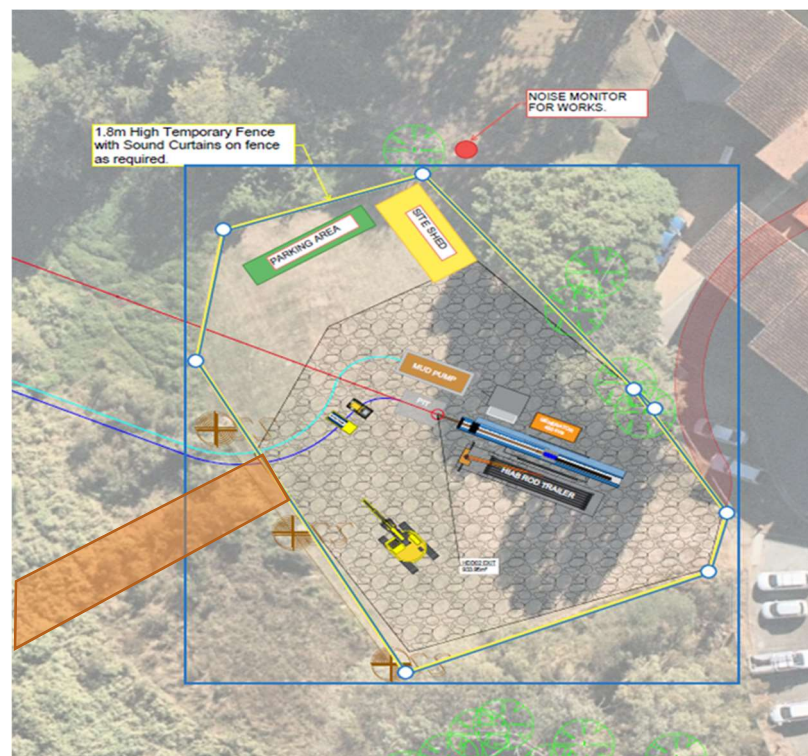

Figure 3c
3. Sinnamon Aged Care Facility. The central meeting point will be in the existing car park indexed in Fig 2 and accessed as per Fig 3c.